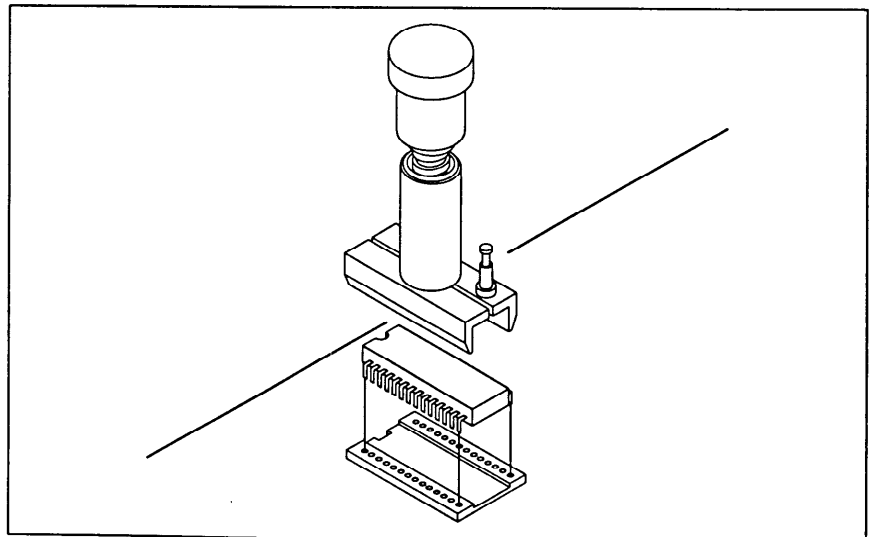

Figure 10. Aligning MEDIA NUMBER 3 with socket using insertion tool
- b. Align the notch of the socket with the notch in the EPROM. Misalignment could cause one of the pins to bend. Refer to Figure 10. Insert the EPROM into the socket with the insertion tool.
- a. Holding the EPROM in the insertion tool, align the chip above the socket, making sure that each of the pins line up correctly with the socket holes. Misalignment could cause one of the pins to bend. Refer to Figure 10.